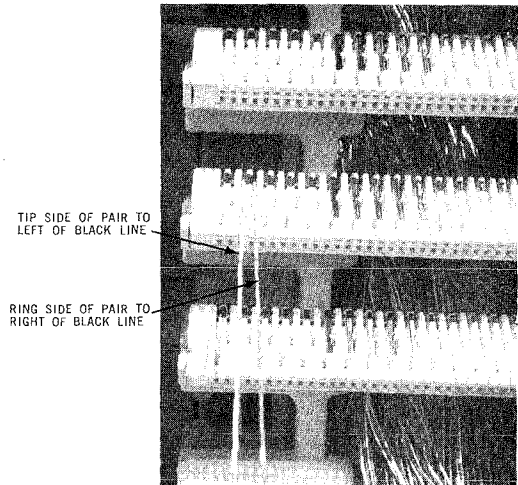

Fig. 7
- 4.03** Bring the wire out and over the connector module cover on which the wire is to be terminated. Split the pair over the black mark on the module cover, placing the tip wire (yellow with blue trace) to the left and the ring wire (blue with yellow trace) to the right. (See Fig. 7.)